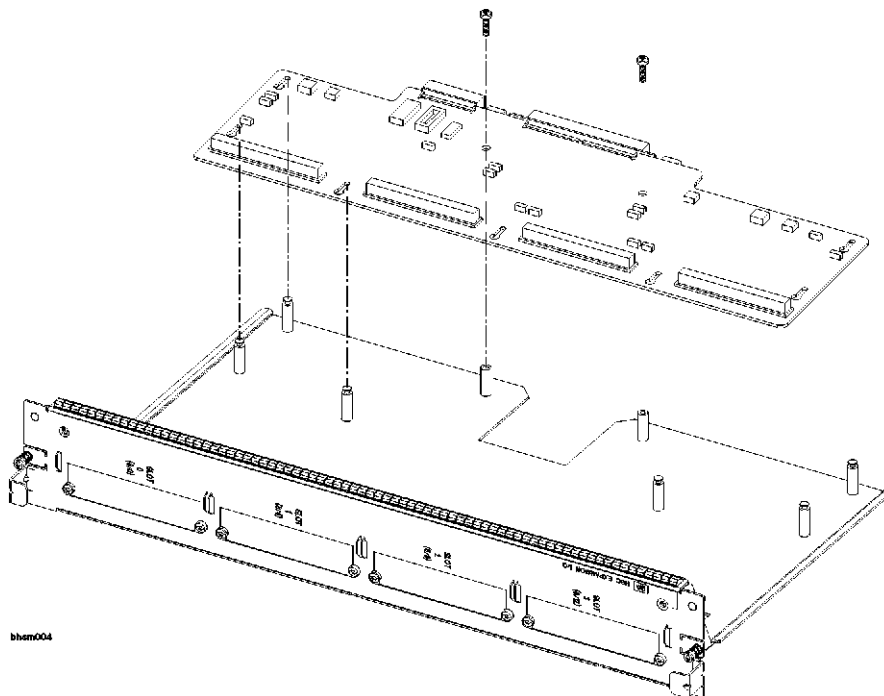

Figure 7-19 HSC Expansion I/O Card Disassembly
6. Remove the two Phillips head screws from card and sheet metal assembly (see Figure 7-19).
1. Position the HSC Expansion I/O exchange PCB, component side up, over the alignment pins (see Figure 7-19).